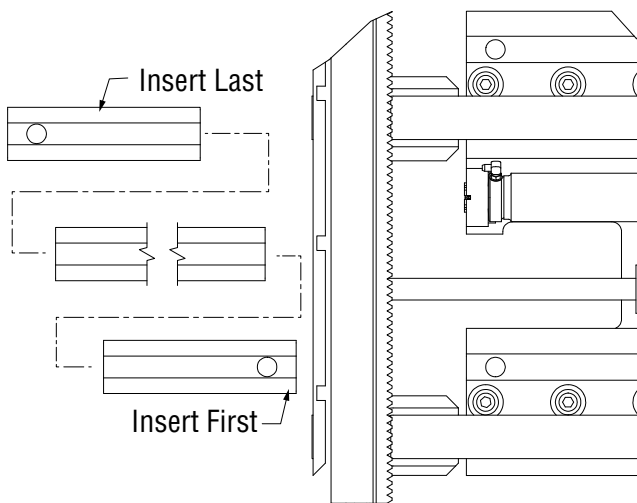

Figure 5-15, Wear Strips
6. Insert new wear strip end pieces with the plug hole first. Insert the wear strip center section. Use the rubber mallet to tap into channel. Tap the center wear strip in far enough to leave a lip on the channel to start the last end piece. Insert the last wear strip end piece with the plug hole out and tap into place lining up the retainer plug hole. (Figure 5-15)